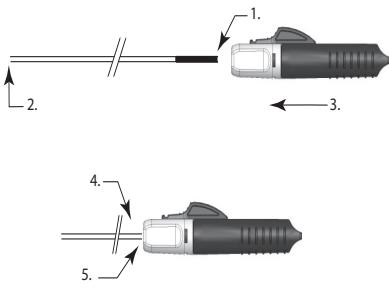

Figure 3
- Hold the proximal end of the implant pusher at the distal end of the load indicator. Advance the Instant Detacher (I.D.) over the proximal end of the implant pusher until the load indicator fully enters the funnel and the pusher is firmly seated in the actuator (See Figure 3).
Note: If indicator band is still showing as in Figure 4 below, the Instant Detacher (I.D.) should be advanced further until the implant pusher is fully seated in the funnel as in Figure 3 above.